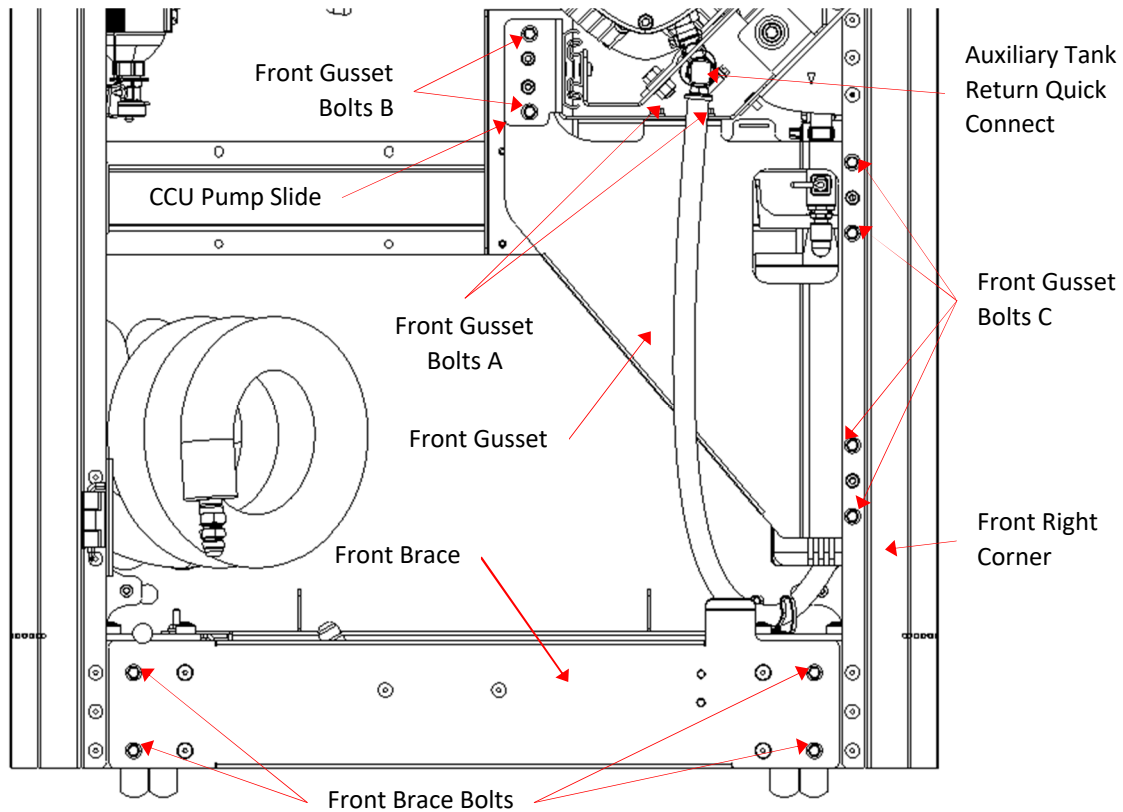

Figure 2-15: Cryogen Compressor Installation (Front View)
3. Uninstall the Front Gusset (refer to Figure 2-15):
4. Uninstall the Front Brace (refer to Figure 2-15)
8. Reinstall the Front Brace and its bolts. The lower door stop of the brace should face upwards (refer to Figure 2-15).
10. Reinstall the Auxiliary Tank Return Quick Connect hose to the CCU Pump Drain Port (refer to Figure 2-15).